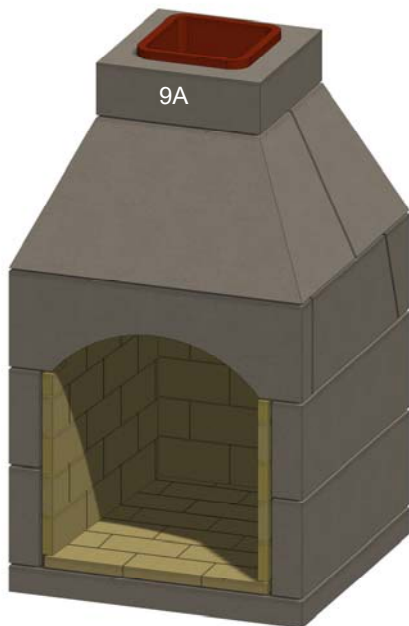

Figure 20. Chimney Flue
M. Install the first Stone Age masonry chimney section (9A), with the tile extending upward. Fill the void on the bottom with mortar to create a smooth transition. See Figure 20.